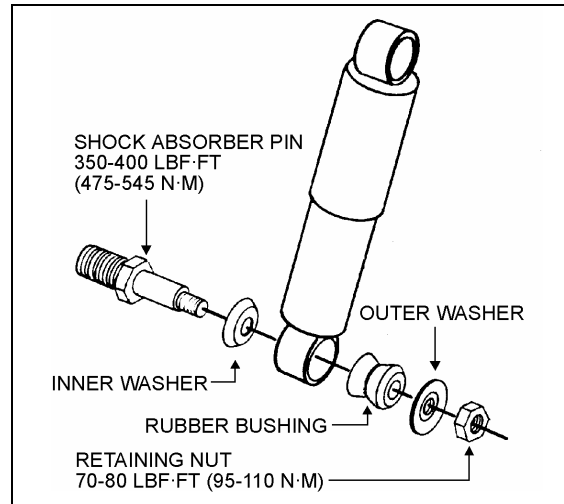

FIGURE 4: SHOCK ABSORBER
1. Remove nuts and washers from shock absorbers on upper and lower mounting pins, taking care to identify the inner and outer washers to ease reinstallation. Refer to figure 4 for details